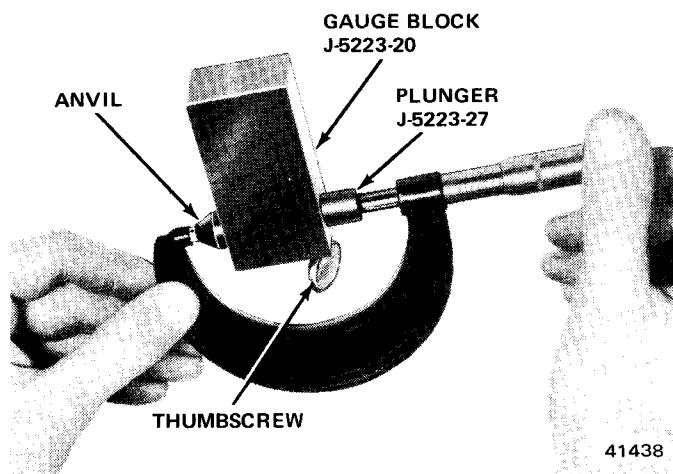

Fig. 10-43 Measuring Gauge Block
(5) Extend clamp bolt until it presses against gauge block with enough force to prevent gauge block from moving.
(6) Loosen thumbscrew in gauge block to release plunger in gauge block. When plunger contacts arbor tool, tighten thumbscrew to lock plunger in position. Do not disturb plunger position.
(7) Remove clamp and bolt assembly from axle housing.
(8) Remove gauge block and measure distance from end of anvil to end of plunger using a 2- to 3-inch micrometer (fig. 10-43). This dimension represents the **measured pinion depth**. Record this dimension for assembly reference.